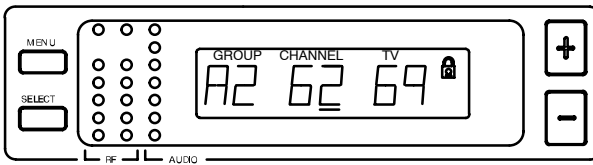

FIGURE 33
- A small “lock” symbol appears in the upper right corner of the status screen displays, as shown in Figure 33. The lock symbol indicates the receiver is in the lock mode.